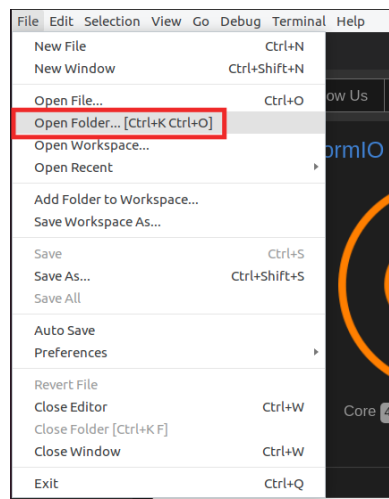

Figure 18. Open Folder
Step 4. On the top menu bar, click on *File* → *Open Folder* (see Figure 18) and browse into directory `[RVfpgaSoCPath]/RVfpgaSoC/Labs/LabResources/Lab2/examples/`